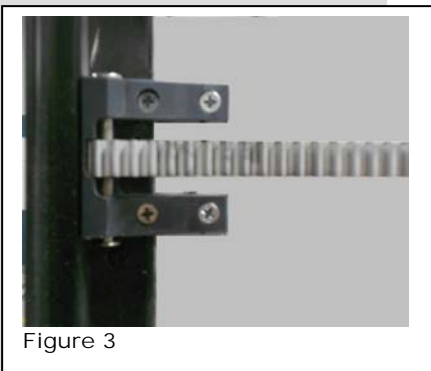

Figure 3
4. Secure top rack/end brackets to a vertical structure. NOTE: Secure using four (4) flat head #10 screws (See **FIGURE 3** below) into a structure that can support the weight of the bunk and sleeping occupants.
5. Using the builder's level make the gear rack is plumb, secure the bottom rack /end brackets to the vertical structure. Use four (4) flat head #10 screws.